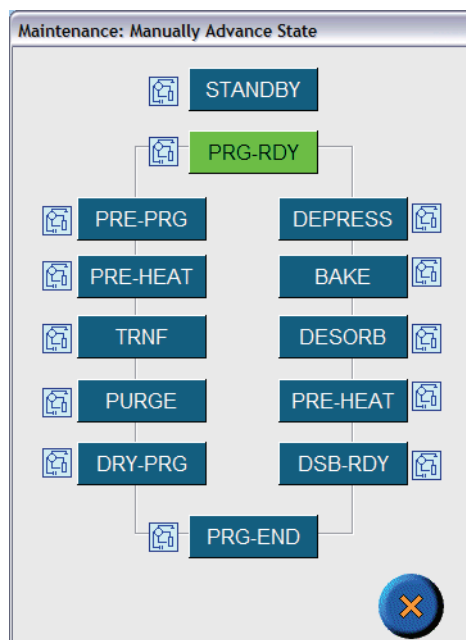

Figure 6.38. Instrument in “Purge-Ready”
1. From the Maintenance screen, step the instrument to either the “Standby” or “Purge Ready” state (see Figure 6.38).